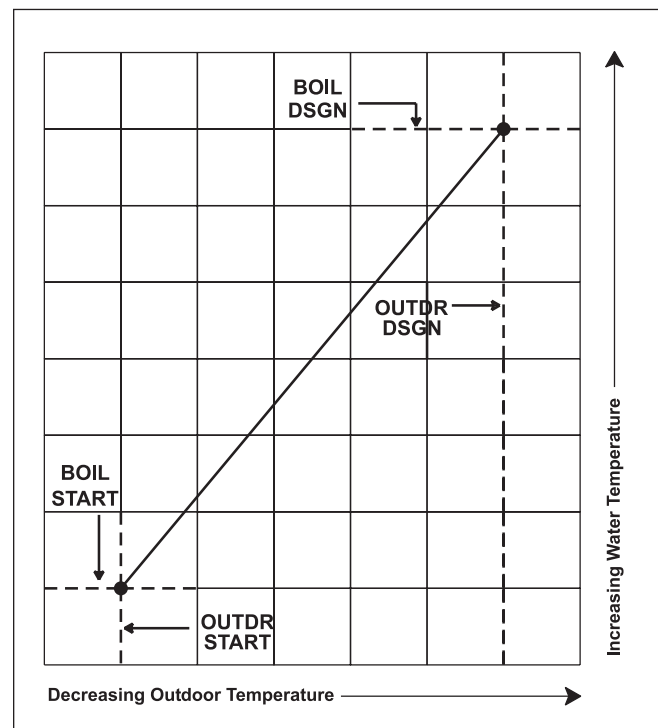

Figure 30. Temperature Control Outdoor Start Graph.
**Boiler Start (BOIL START)** – The BOIL START temperature is the theoretical boiler supply water temperature that the heating system requires when the outdoor air temperature equals the OUTDR START temperature setting. The BOIL START is typically set to the desired building temperature (see Figure 30).